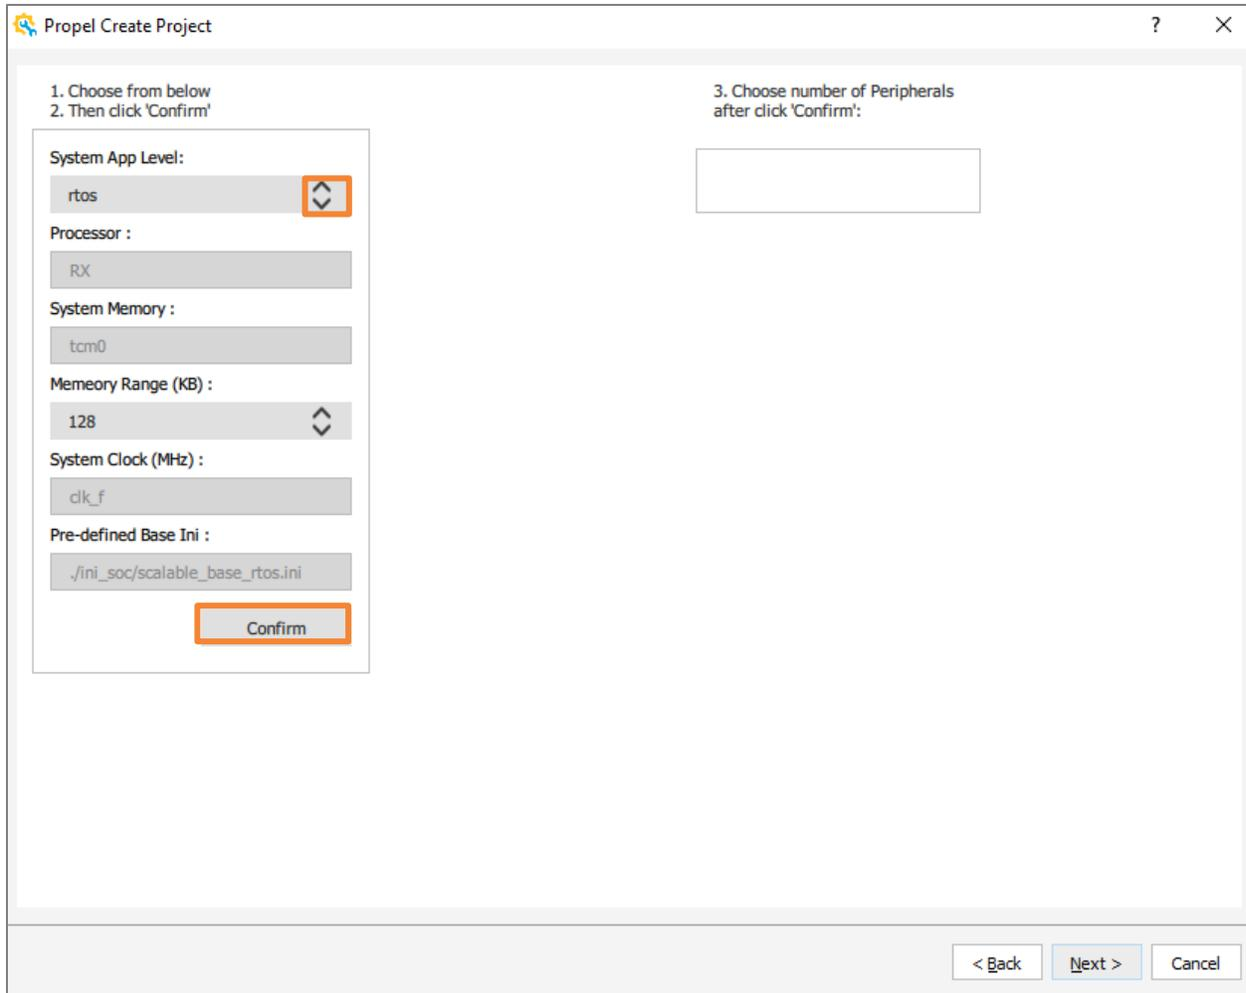

Figure 2.22. Scalable Wizard – System Configuration
Step1: You can choose a specific system app level solution based on this template. Click in the System App Level combo box (Figure 2.22), and then click **Confirm**.